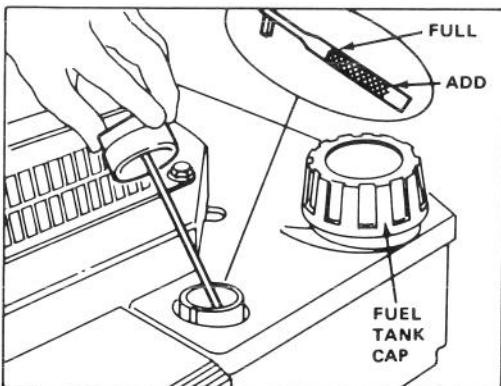

Figure 6
3. Wipe dipstick and insert it into filler neck. Rotate cap clockwise 1/4 turn. Then remove dipstick and check level of oil (Fig. 6). If level is low, add only enough oil to raise level to FULL mark on dipstick. DO NOT FILL ABOVE FULL MARK BECAUSE ENGINE COULD BE DAMAGED WHEN STARTED.
1. Clean around fuel tank cap and remove cap from tank (Fig. 6). Using unleaded gasoline, fill fuel tank to within 1/2 inch (13 mm) from top of tank.